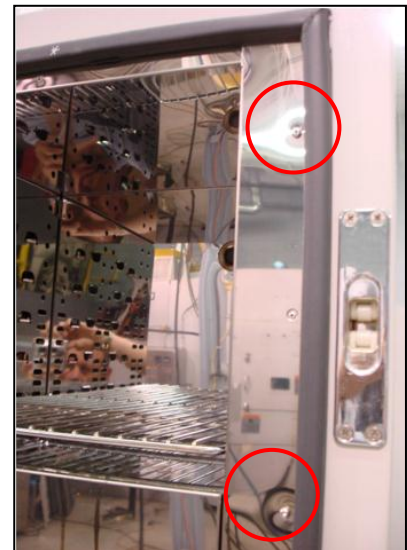

Figure 12. Remove Screws to Remove Side Panels.
2. Remove side walls by removing the screws on the front edge of each panel (Figure 12).